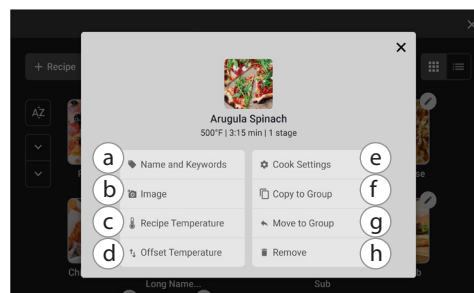

Figure 37: Edit Recipe Options
4. Select an option (Figure 37, above).